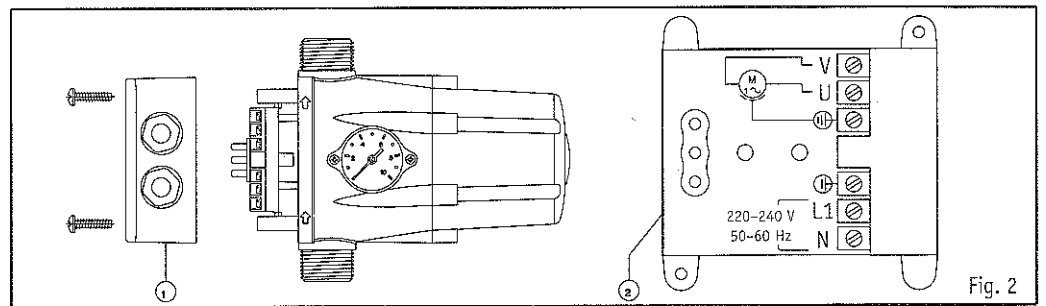

Fig. 2
## ELECTRIC CONNECTION (fig. 2)
- d) Incorrect electric connection: Verify the connections according to fig. 2
- b) Pump is blocked: LED (FAILURE) is on, the security system is activated. When we act on the manual start switch (RESET) the LED (ON) is activated but the pump does not work: Contact with your dealer.
**COLLEGAMENTO ELETTRICO (fig. 2)**